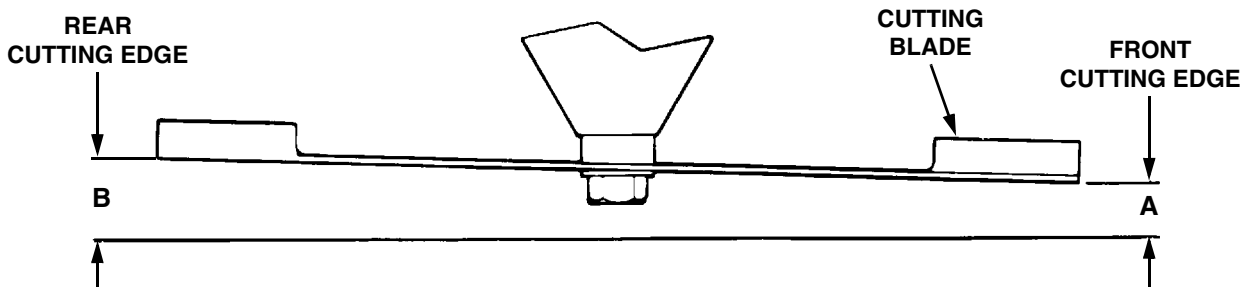

Figure 34
- Refer to Figure 34. Measure and record the distance from the front cutting edge to the ground (measurement A), and from the rear cutting edge to the ground (measurement B), for each of the blades. The front edge of each blade (measurement A) should be lower than its back edge (measurement B) by 1/8 to 1/4 inch.